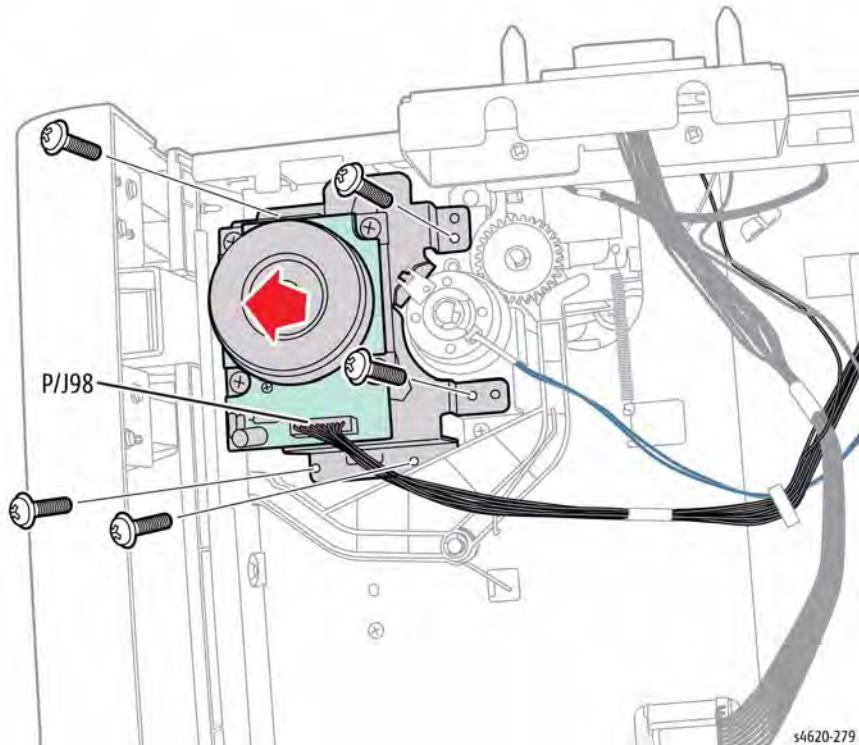

Figure 1 Remove the Feed Drive Assembly
4. Disconnect CN1 from the feed motor and remove 5 screws (metal) that secure the assembly to the chassis, Figure 1.